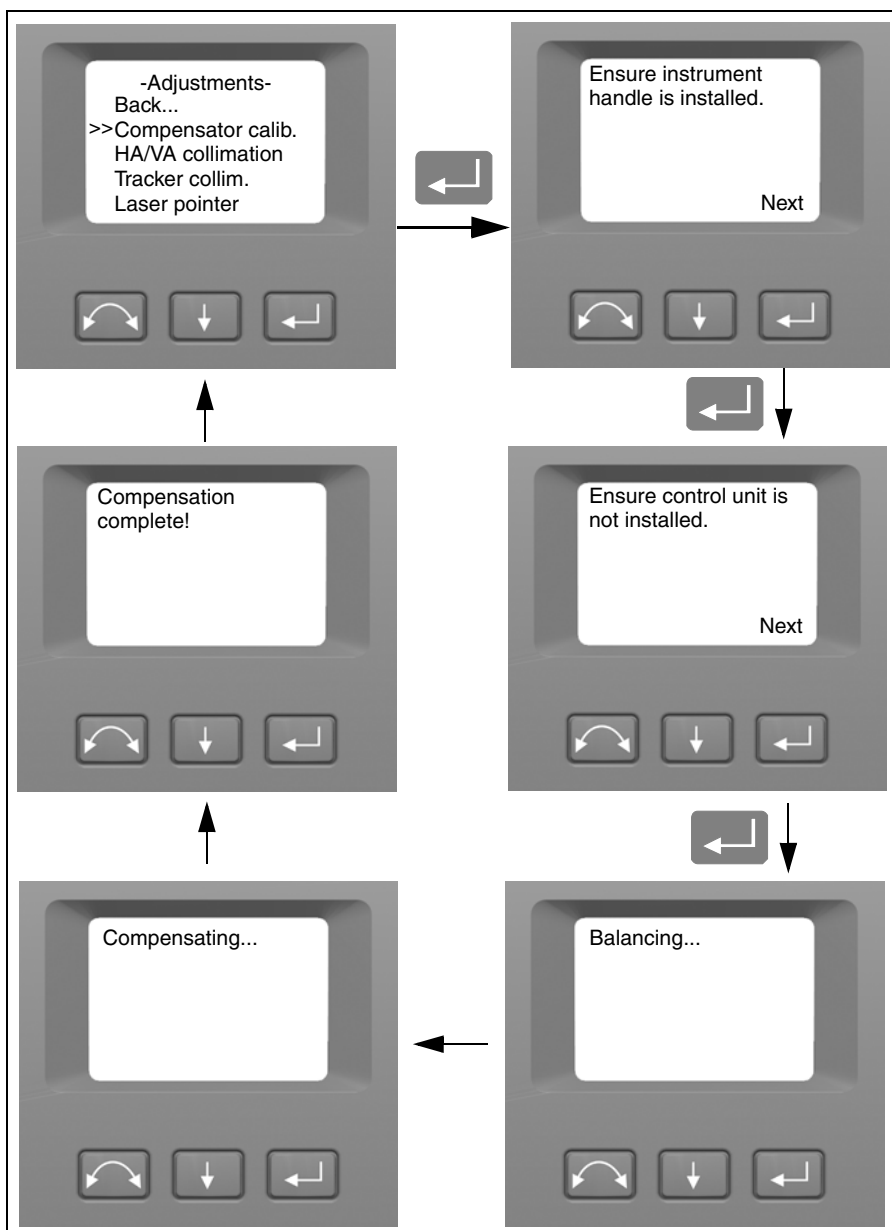

Figure 4.33 Compensator calibration routine
- Follow the instructions in the display. Figure 4.33.